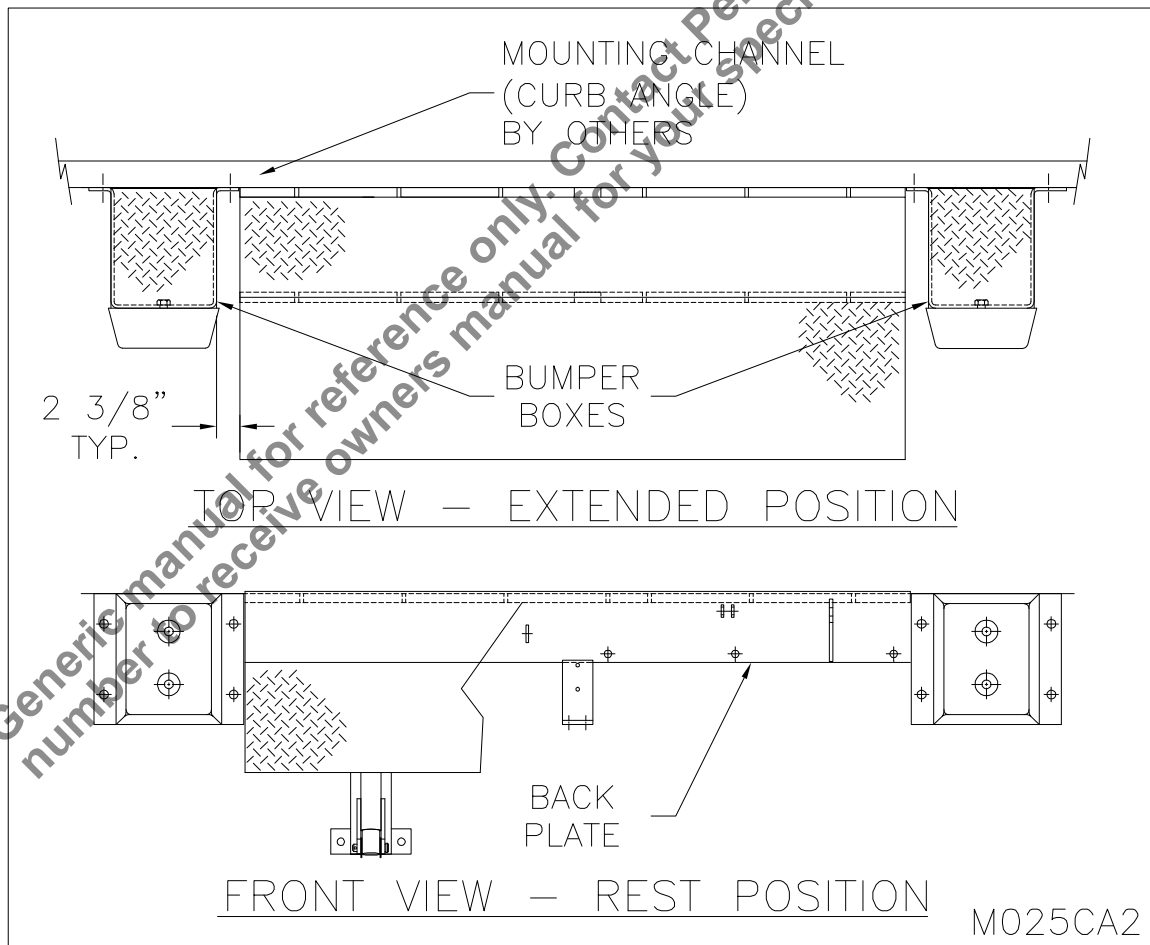

Figure 3: Mounting Channel
(See Figure 3, page 5)
3. Position bumper boxes as shown in Figure 3 and tack weld to curb channel/angle.
4. Position bumper boxes as shown in Figure 3: Mounting Channel on page 5, and 1/4" above the floor.